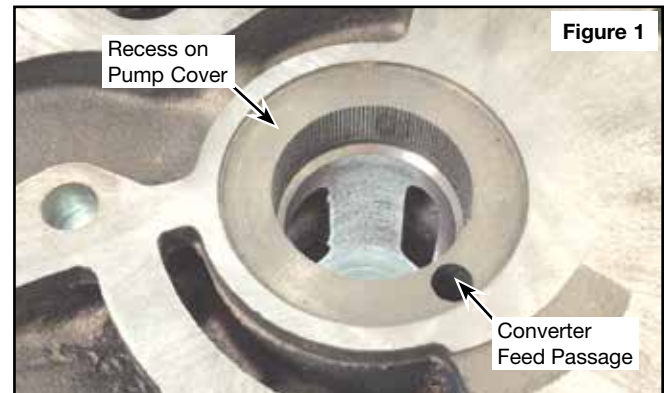

Figure 1
- With original stator tube removed, drill converter feed passage to .156" (5/32") (**Figure 1**). If already larger, that is alright.
- Press stator tube into pump cover so that front end of serrations are just flush with recess on pump cover (**Figure 1**).